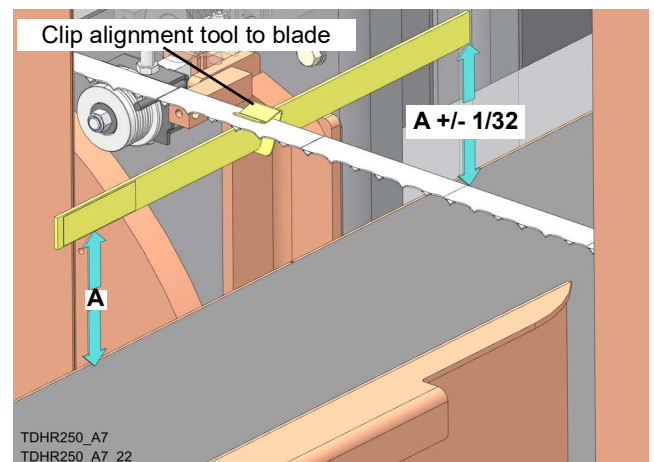

FIG. 5-3
1. Clip alignment tool on blade near idle side blade guide assembly. See FIG. 5-3